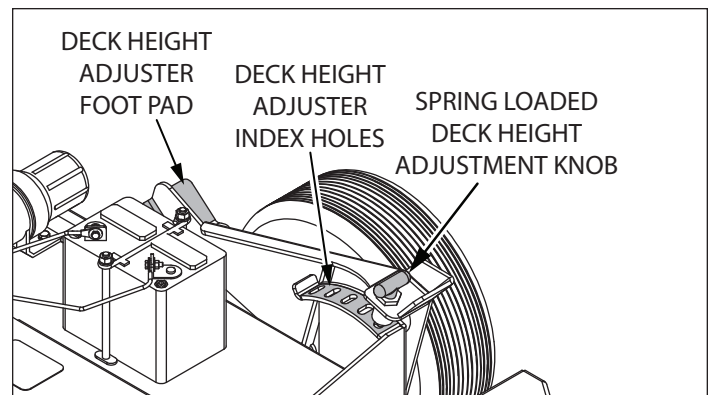

FIGURE 6: CUTTER DECK HEIGHT ADJUSTMENT.
- Apply foot pressure to the deck height adjuster foot pad. **SEE FIGURE 6**